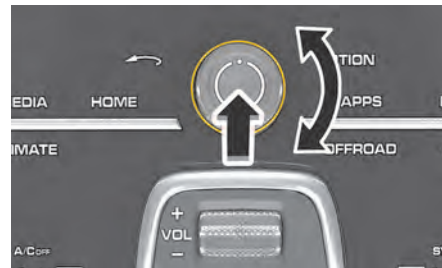

Fig. 149: Operating the rotary push button
1. Turn the rotary push button (Fig. 149) until the desired letter or character is highlighted.